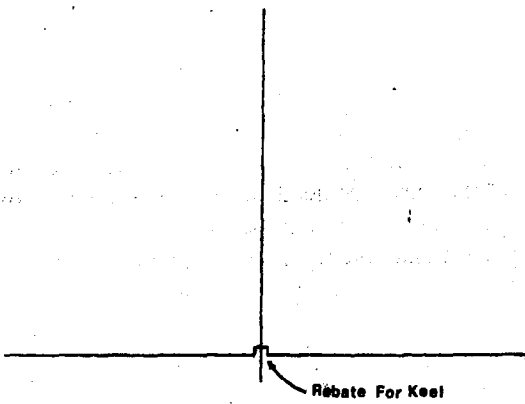

Fig. 1
1. Figure 1: make mylar blanks for frame drawings. Number needed will depend upon whether a merchant or war ship,